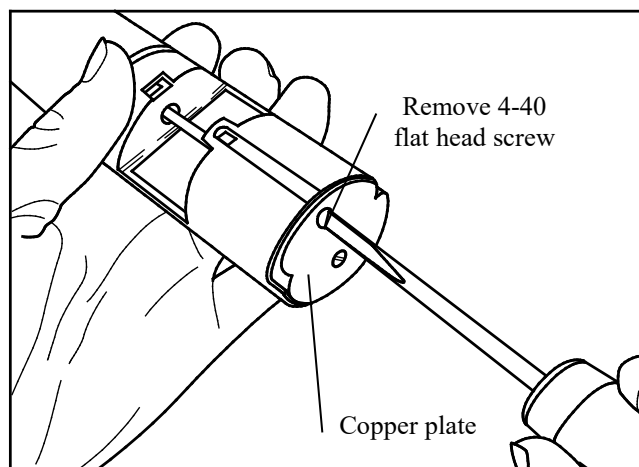

FIGURE 8-6. Remove the screw
2. Remove the 4-40 flat head screw and copper plate to expose the drive shaft access port (FIGURE 8-6).